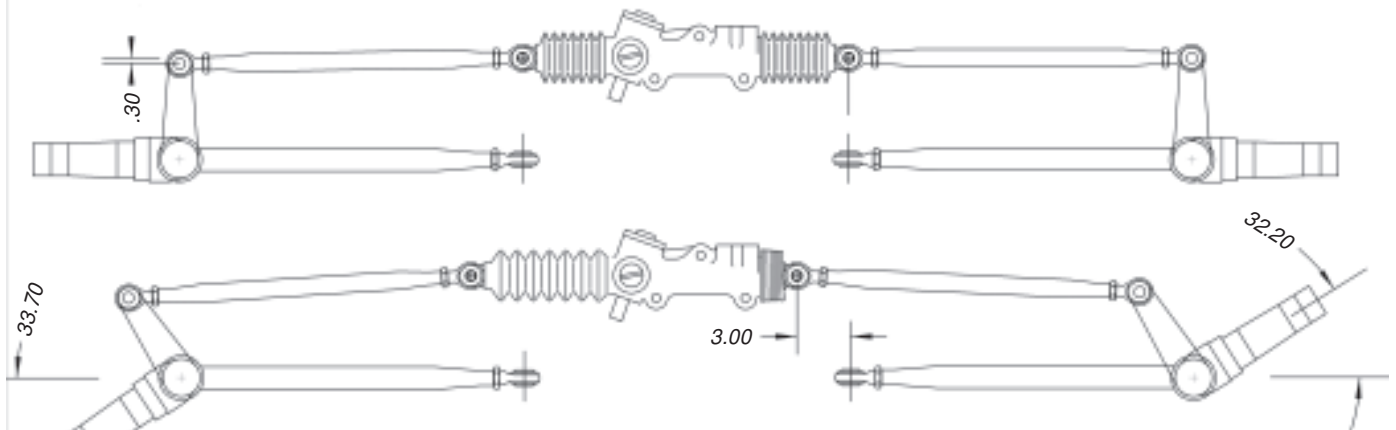
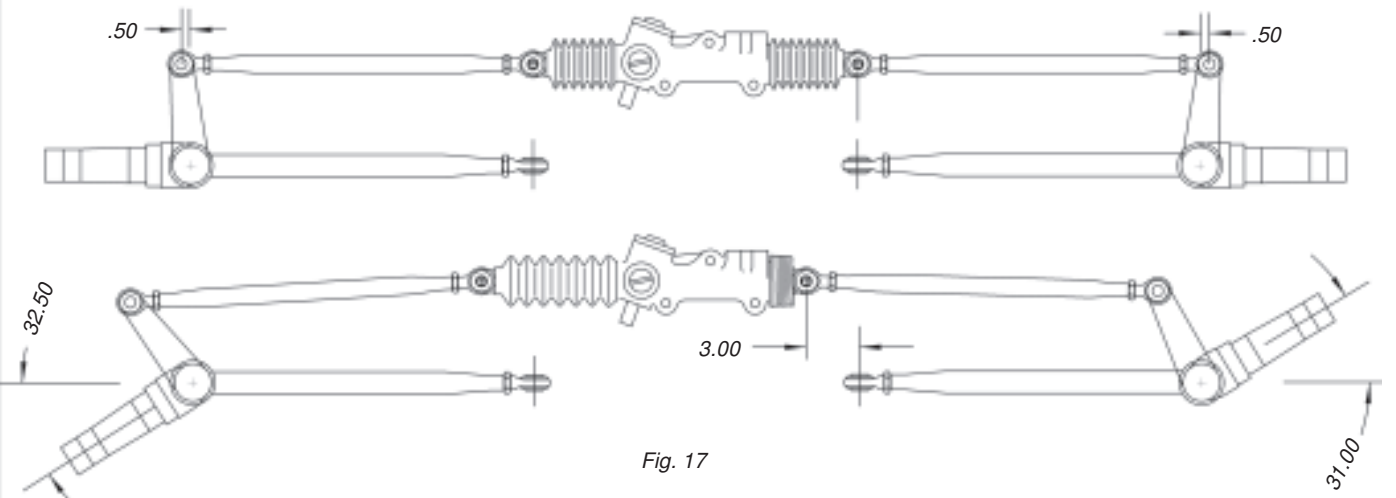

Fig. 15
Fig. 17
**The second step is to obtain Ackermann steering by moving the outer tie rod ends outside the lower ball joints.** This conflicts with the need to have the brake rotors exposed to as much airflow as possible; on many cars the rotors or the wheel rims interfere with the tie rods, preventing their placement as far outward as needed (this problem remains unresolved in some stock car construction even today). A good rule of thumb for short track cars is half an inch out for every six inches of steering arm length, which is coincidentally about as far as you can go without scraping the inside of the wheel. Figures 15 through 19 progress through various corrections of a front end to improve the Ackermann.
The amount of Ackermann created in figure 17 by moving the steering arms .500 outboard has incidentally just about equaled that produced in one direction by the .300 shorter steering arm in figure 15. More importantly, *the steering can now be turned in both directions without the front end changing from toe-out to toe-in.*